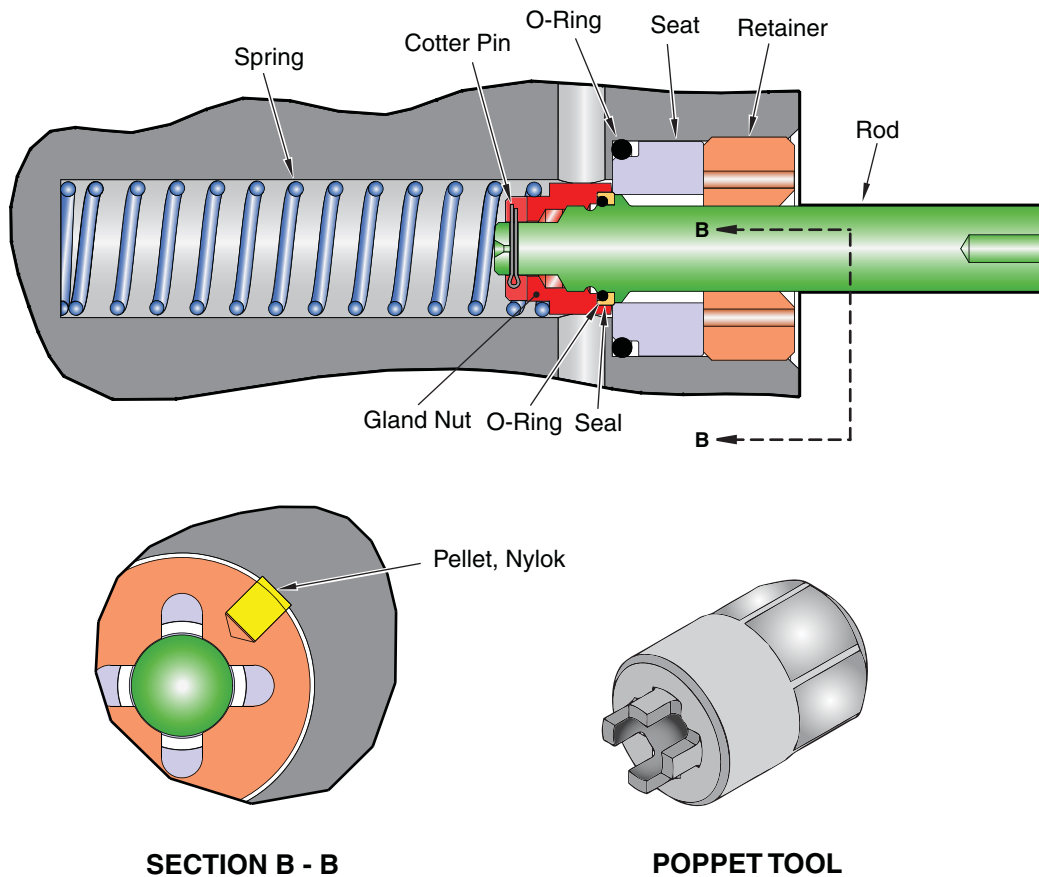

Figure 5-63. Poppet Assembly (P/N 20022638)
Number in parentheses correspond to the callouts in Figure 5-63 on page 5-72 and the item numbers in the table titled "Parts List — Poppet Assembly" on page 5-72. Refer to this table for assembly and kit part numbers.
3. Install a new seal (5) over the rod until it contacts the shoulder of the rod (see Figure 5-63 on page 5-72).
4. Install the O-ring (6) over the rod until it contacts the seal (see Figure 5-63 on page 5-72).
5. Screw the gland nut (7) clockwise onto the rod until it contacts the O-ring (6) and seal (5). Do not use force or squeeze the O-ring and seal. If the hole in the gland nut does not align with the hole in the rod, rotate the gland nut counterclockwise until the holes are aligned.
6. Install a new cotter key (8) into the gland nut (7) and through the rod (5). Spread the ends of the cotter key to prevent it from coming loose.
7. Install a new O-ring (2) into the seat groove (see Figure 5-63 on page 5-72).
9. Holding the seat/retainer/removal/installation tool assembly in one hand, and the spring onto the gland nut with the other hand, enter the spring into the UltraLock II (B) piston, taking care not to move the O-ring (2) off the seat (1).